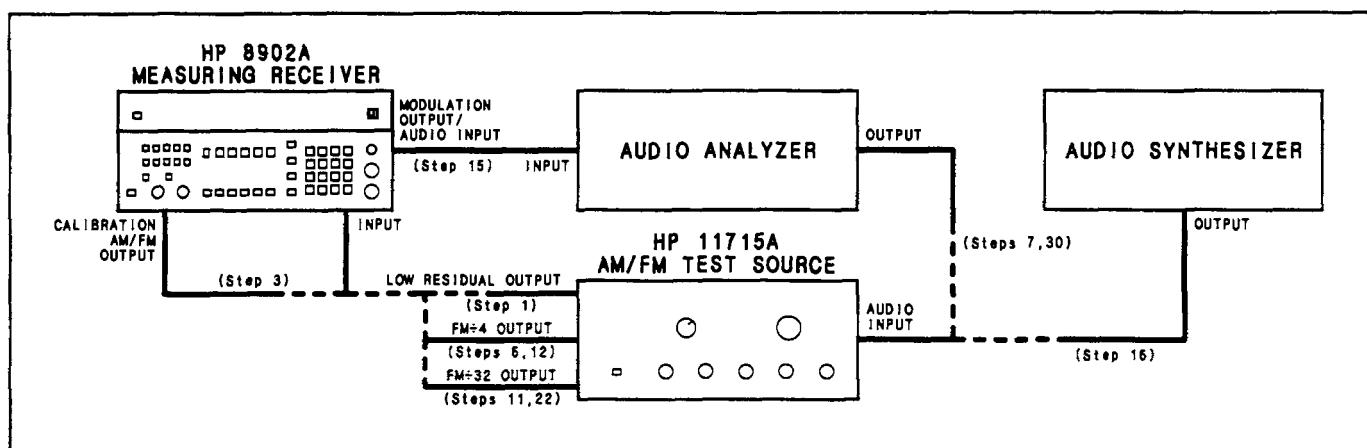

Figure 4-2. FM Performance Test Setup
1. On the AM/FM test source, set the test mode to residual FM. Connect its low-residual (560 MHz) output to the Measuring Receiver's INPUT. (See Figure 4-2.)
3. Connect the Measuring Receiver's CALIBRATE AM/FM OUTPUT to the INPUT. (See Figure 4-2.)
6. On the AM/FM test source, set the test mode to FM. Connect its FM÷4 output to the Measuring Receiver's INPUT. (See Figure 4-2.)
7. Set the audio analyzer's oscillator to 10 kHz at 1V. Connect its output to the audio input of the AM/FM test source. (See Figure 4-2.)
11. Connect the FM÷32 output of the AM/FM test source to the Measuring Receiver's INPUT without disturbing the AM/FM test source's controls. (See Figure 4-2.) Multiply the displayed ratio on the Measuring Receiver by the calibration factor of step 4. (For example, if the display reads 12.52% REL and the calibration factor of step 4 is 100.4%, the result is $12.52 \times 100.4 = 12.57\%$ REL.) The result should be between 12.35 and 12.65% REL.
12. Connect the FM÷4 output of the AM/FM test source to the Measuring Receiver's INPUT. (See Figure 4-2.)
15. Connect the audio analyzer's input to the Measuring Receiver's MODULATION OUTPUT/AUDIO INPUT. (See Figure 4-2.) Set the audio analyzer to measure the distortion on the 100 kHz signal at the MODULATION OUTPUT/AUDIO INPUT (all audio analyzer filters should be off). The distortion should be 0.1% or less (-60 dB or less).
16. Set the audio synthesizer to 10 kHz at +5 dBm. Connect its output to the audio input of the AM/FM test source. (See Figure 4-2.) Fine adjust the level for a Measuring Receiver display of 100 kHz times the calibration factor of step 5. (For example, if the calibration factor of step 5 is 100.4%, set the level for a display of 100.4 kHz.)
22. Connect the FM÷32 output of the AM/FM test source to the Measuring Receiver's INPUT. (See Figure 4-2.)
30. Set the audio analyzer's oscillator to 10 kHz at 4V. Connect its output to the audio input of the AM/FM test source. (See Figure 4-2.) Fine adjust the oscillator level for a Measuring Receiver display of 10 kHz peak deviation.